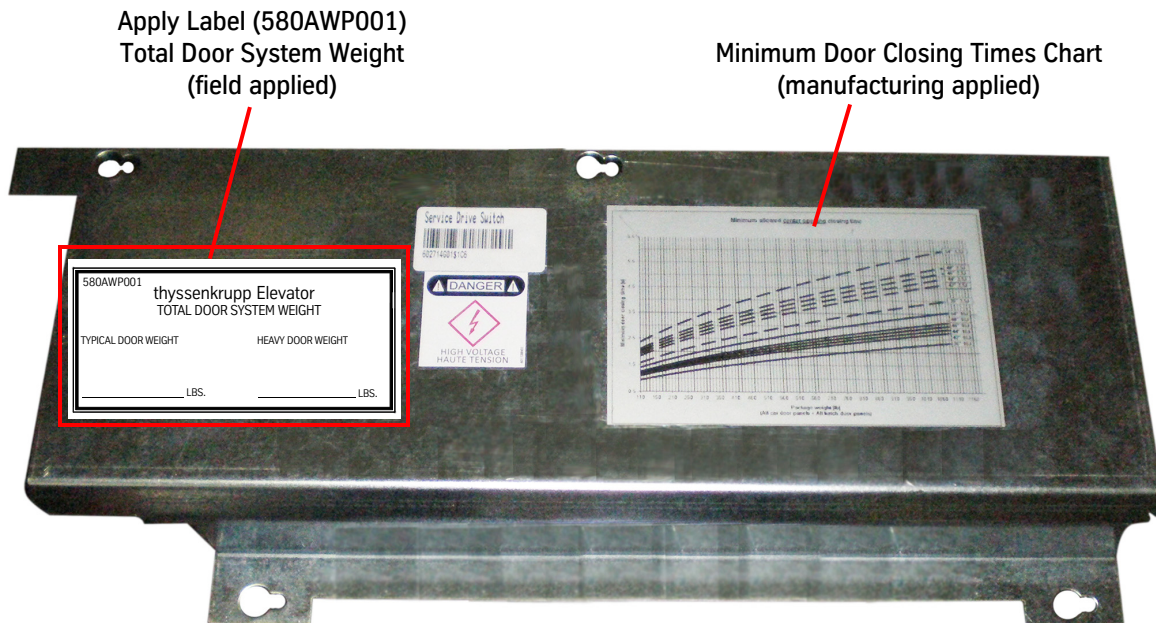

Figure 64 - Door System Labels
3. Install the Total Door System Weight (580AWP001) label next to the Minimum Door Closing Times Chart. See Figure 64.